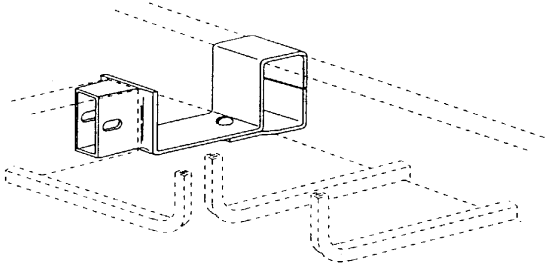

Figure 4.21A
4.3.10 Single Rail Cable Tray Fitting Connectors (See Figures 4.21A through 4.21D)